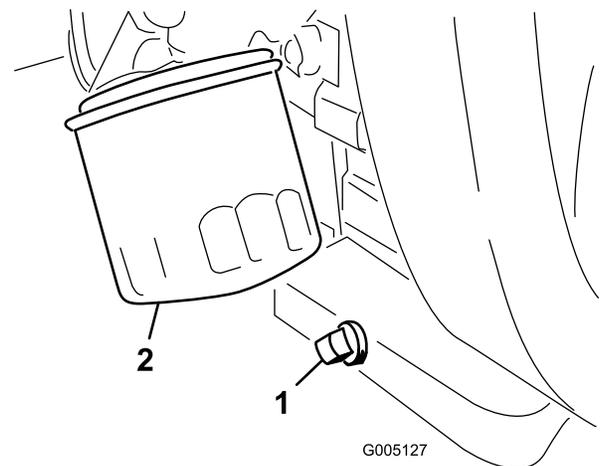

Figure 42
1. Remove the drain plug (Figure 42) and let the oil flow into a drain pan. When the oil stops, install the drain plug.
- Remove the oil filter (Figure 42).